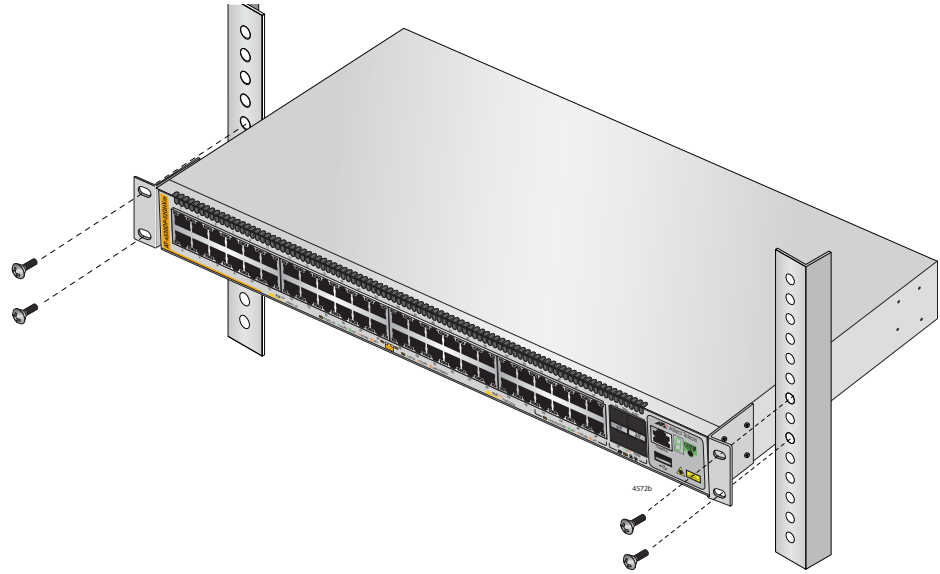

Figure 37. Installing the Switch in an Equipment Rack
3. Have another person hold the switch at the desired location in the equipment rack while you secure it using four standard equipment rack screws (not provided). Refer to Figure 37.